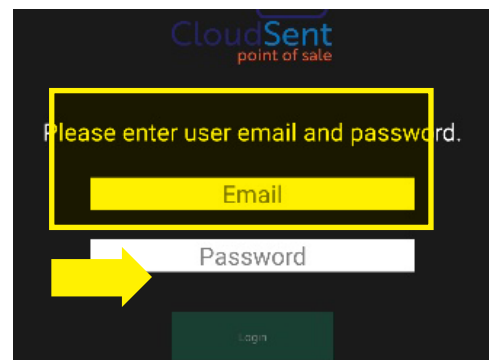

Figure 21
6. You may see a screen asking for User Email and Password. If so, Enter the User Email and Password on your CloudSent Log On Sheet found in the Red Bag (Figure 21).